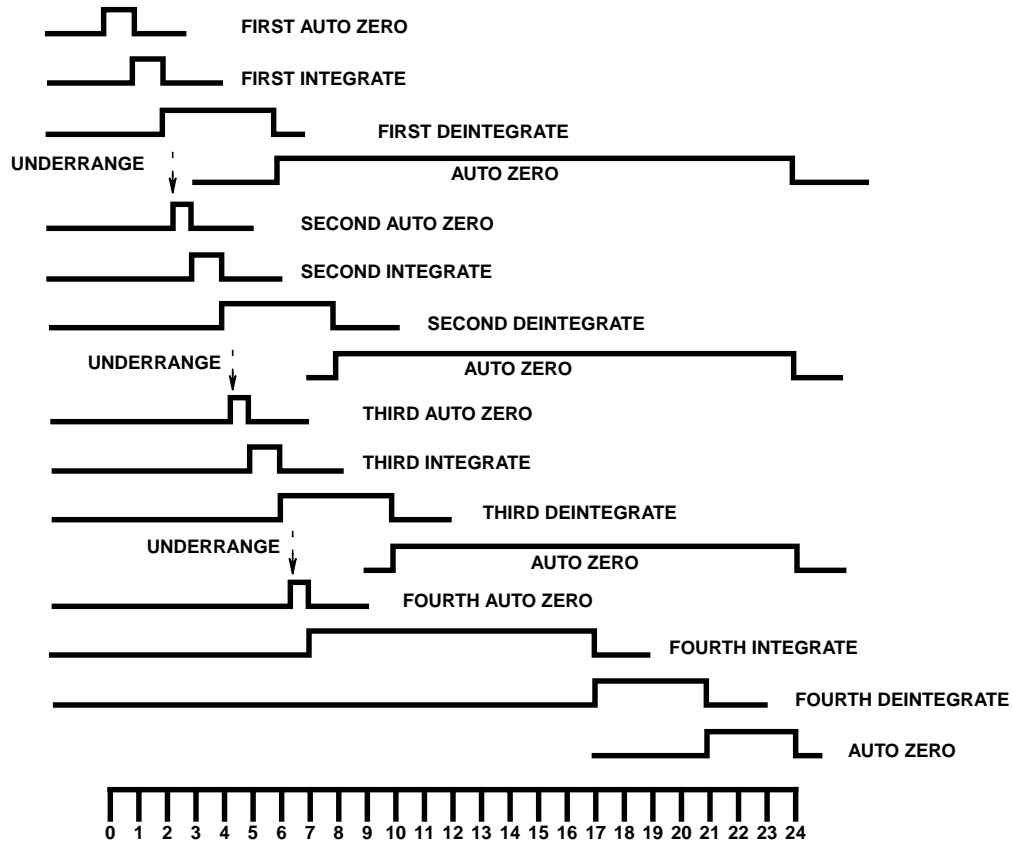
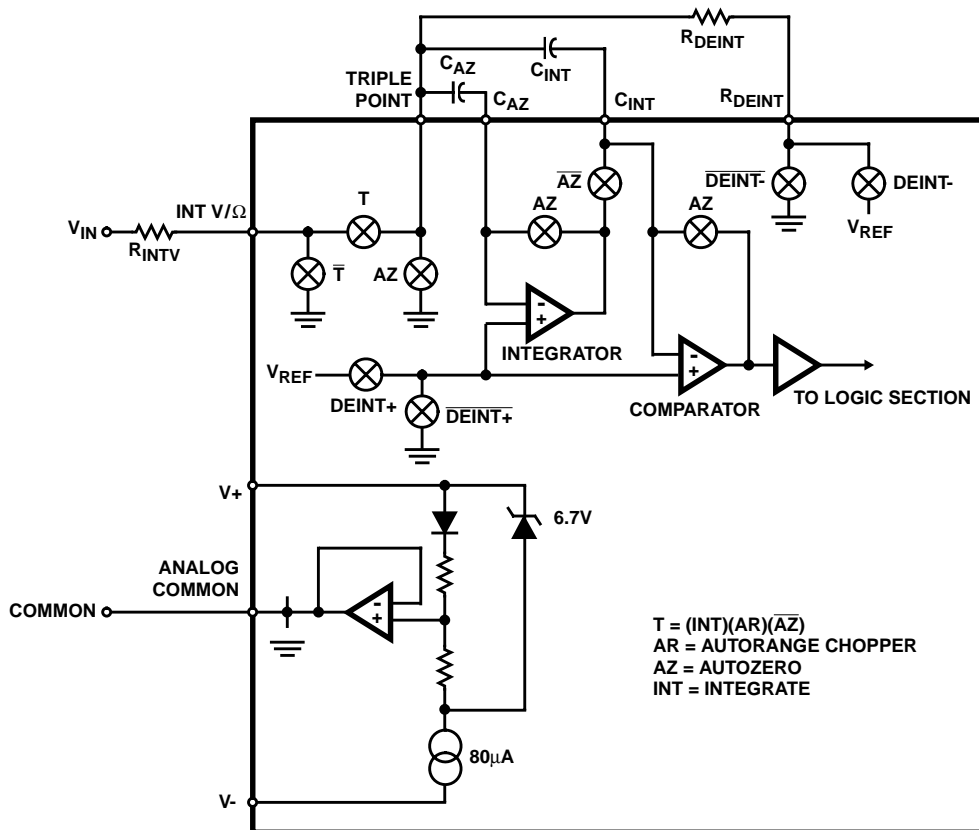

FIGURE 1. LINE FREQUENCY CYCLES (1 CYCLE = 1000 INTERNAL CLOCK PULSES = 2000 OSCILLATION CYCLES)
FIGURE 3. DETAILED CIRCUIT DIAGRAM FOR DC VOLTAGE MEASUREMENT
V+ = 9V, T_A = 25°C, V_{REF} adjusted for -3.700 reading on DC volts, test circuit as shown in Figure 3.
Only those portions of the analog section which are used during DC voltage measurements are shown in Figure 3. As shown in the timing diagram (Figure 1), each measurement starts with an autozero (AZ) phase. During this phase, the integrator and comparator are configured as unity gain buffers and their non-inverting inputs are connected to Common. The output of the integrator, which is equal to its offset, is stored on C_{AZ} - the autozero capacitor. Similarly, the offset of the comparator is stored in C_{INT} . The autozero cycle equals 1000 clock cycles which is one 60Hz line cycle with a 120kHz oscillator, or one 50Hz line cycle with a 100kHz oscillator.